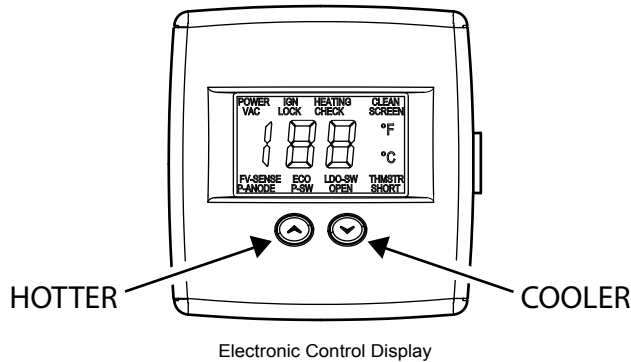

FIGURE 21.
- "Wake Up" the temperature indicators by holding down both "COOLER" and "HOTTER" temperature adjustment buttons at the same time for one second (See Figure 21). The display will light up. The display will only remain on for 30 seconds if no further buttons are pressed. After 30 seconds the control will go back to "Sleep" mode.